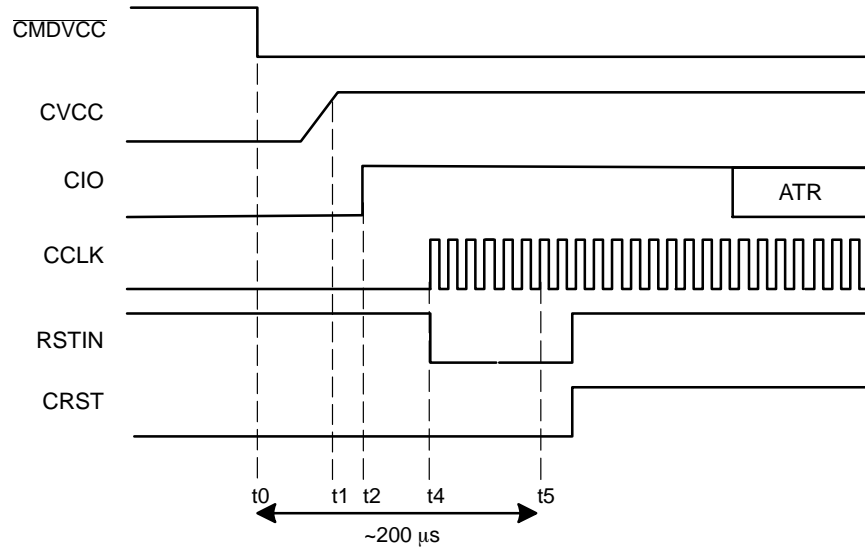

Figure 5. Activation Sequence – RSTIN Mode (RSTIN Starting High)
The clock can also be applied to the card using a **RSTIN mode** allowing controlling the clock starting by setting RSTIN Low (Figure 5). Before running the activation sequence, that is before setting Low $\overline{\text{CMDVCC}}$ RSTIN is set High. The following sequence is applied:
- Between t2 (Figure 5) and t5 = 200 μs , RSTIN is reset to LOW and CCLK will start precisely at this moment allowing a precise count of clock cycles before toggling CRST Low to High for ATR (Answer To Reset) request.